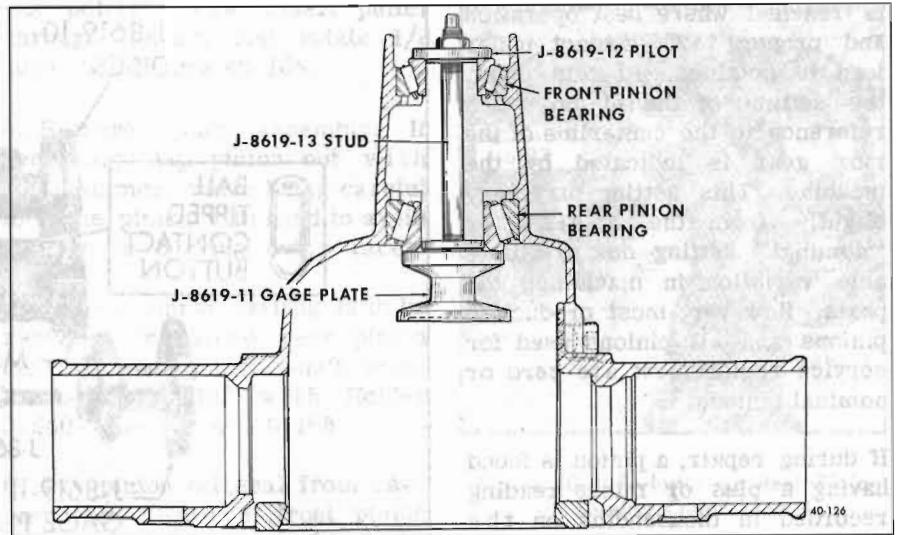

Figure 40-112—Pinion Gage Plate Installed in Carrier
2. Lubricate front and rear pinion bearings which will be used in final reassembly and position them in their respective races in the carrier. Thread Stud J-8619-13 into Gage Plate J-8619-11. With bearings held in place in races, install gage plate and stud assembly on rear pinion bearing inner race. Install Pilot J-8619-12 on front pinion bearing with small diameter on raised portion of bearing race. See Figure 40-112.